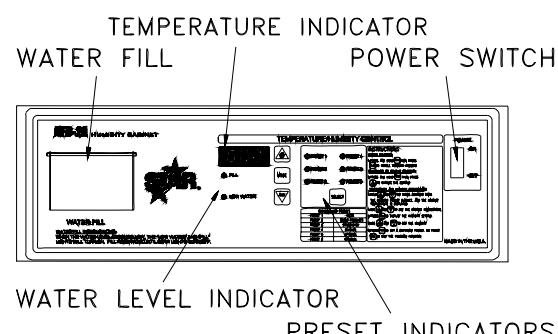

FIGURE 2
The operating controls are located above the door on the side of the unit next to the water fill (See Figure 2).
- Monitor cabinet temperature via the digital thermometer on the control (See Figure 2).
- Periodically monitor water level by indicator on control panel (See Figure 2).